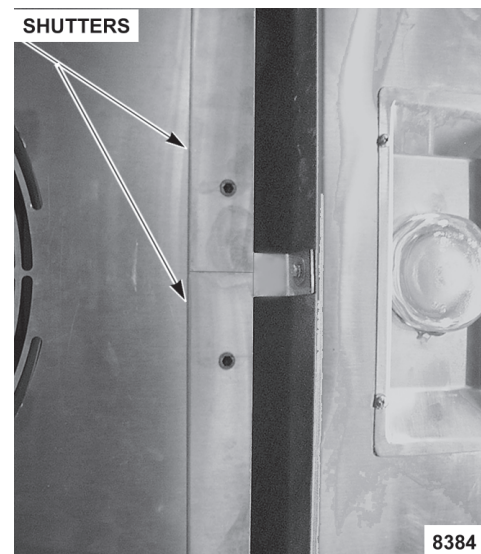

Fig. 6
1. Check air louvers (shutters) (Fig. 6) inside oven and tighten any loose screws.